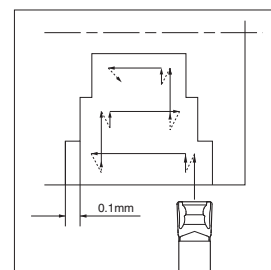

Fig. 3
- 1) When widening the groove width (Refer to Fig. 3), apply the "Step Turning."